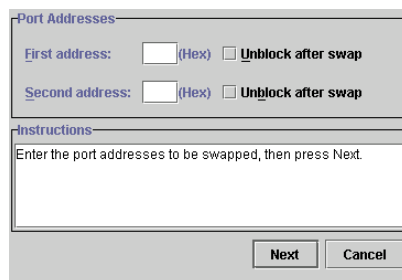

Figure 57: Swap Ports dialog box
1. Click **Maintenance > Swap Ports**. The Swap Ports dialog box displays, as shown in Figure 57.